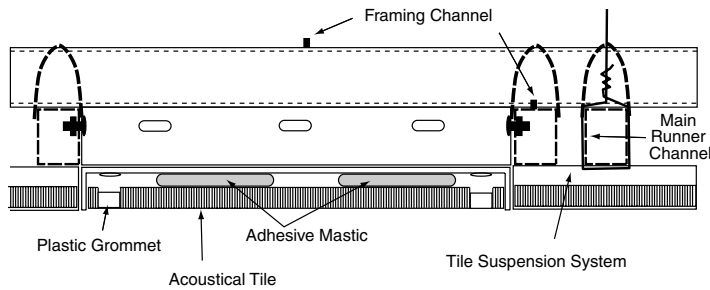
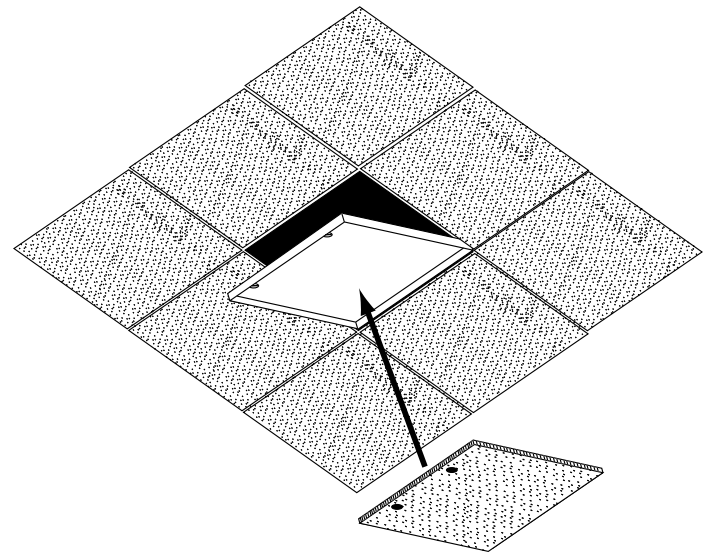

Figure 1
Figure 3
- ① Install framing channels secured to two main runner channels, as required (see Fig. 1 for example).
- ④ Measure inside bottom of door to determine size of ceiling tile required. Trim small portion of edges off of tiles to be applied to door panel so they will fit within door frame without binding. Bevel front edge back toward bottom of tile sufficiently to provide clearance as door is opened.
- ⑤ Saw or drill proper size holes in tile to permit screwdriver operation of cam locks. To protect tile during cam lock operation, insert grommet furnished with door. Anchor grommet in place with adhesive mastic.
- ⑥ Fasten tile to door panel with adhesive mastic (see Fig. 1 and Fig. 3). Depth of mastic will vary to align different thicknesses of tile with the plane of the surrounding surface.